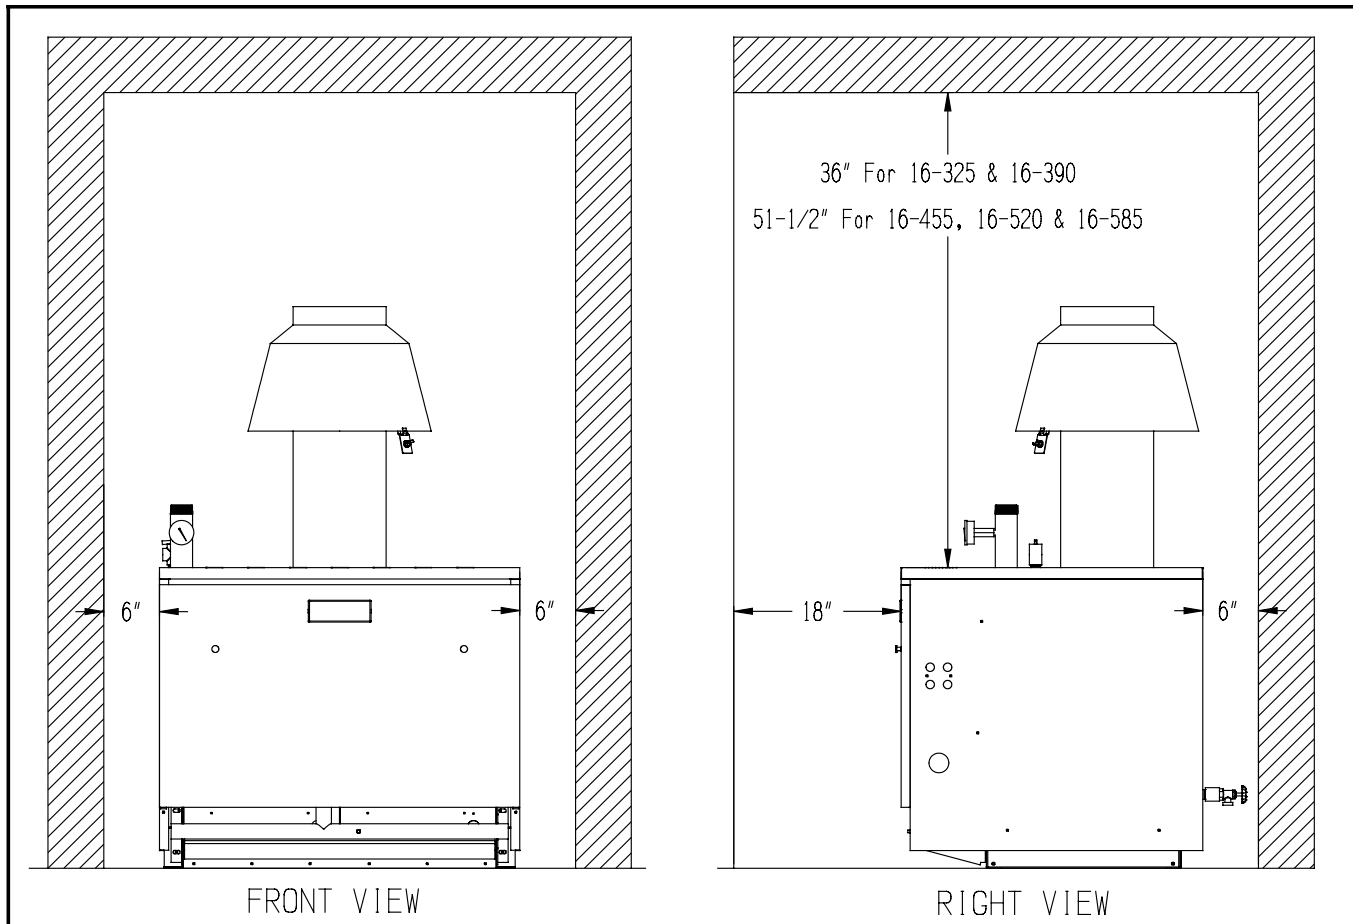

Figure 2: Minimum Clearances to Combustibles
Models 16-325, 16-390 – These sizes are approved for alcove installation. Install with the minimum clearances shown in Table 2. The clearances shown in Table 2 apply to all combustible construction as well as non-combustible walls, floors, ceilings and doors (also see Figure 2).
In addition to the minimum boiler room volume requirement, these three sizes must be installed with the minimum clearances shown in Table 2. The clearances shown in Table 2 apply to all combustible construction as well as non-combustible walls, floors, ceilings and doors (also see Figure 2).
- d. Do not enclose boiler, or special base on all four sides. Models 16-325 and 16-390 may be enclosed on three sides (alcove) while maintaining clearances shown in Figure 2.